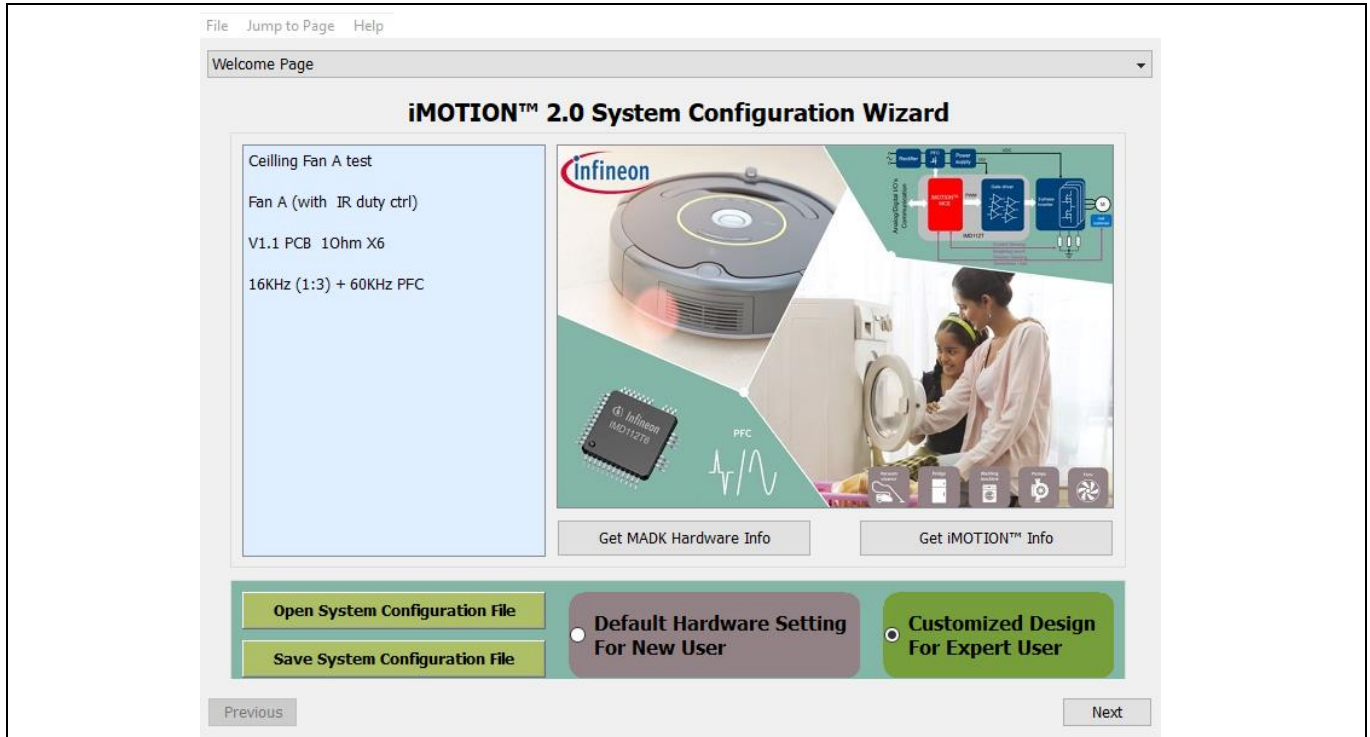
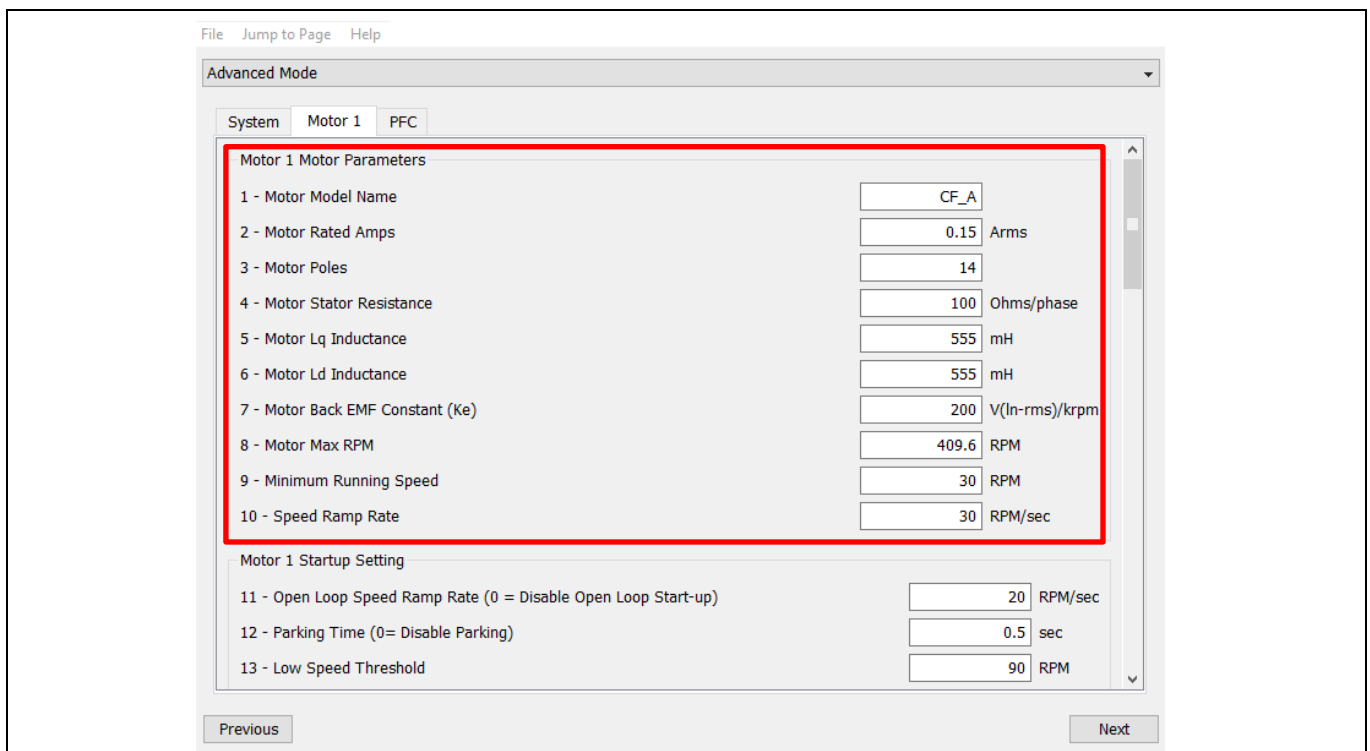

Figure 7 Wizard welcome page
Figure 8 Motor parameters input
1. Use MCEWizard to open the MCEWizard file (‘.mc2’) as shown in Figure 7, then enter the target motor’s system parameters in “Advanced Mode > Motor 1” as shown in Figure 8, which will be used to calculate the controller’s digital parameter set, representing the complete motor drive system.
- Motor’s system parameters as shown in Figure 8, need to be modified for your specific motor system.